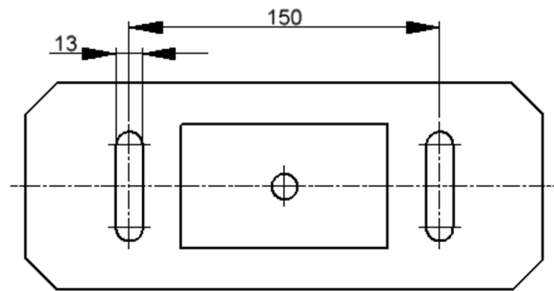

Figure 4 - Reference template for projector installation
- The frangible support of the LHP projector must be fixed to the helipad pavement by means of two M12 threaded rods, each complete with washer, grower and M12 nut. The rods have to be cast into the pavement; tightening torque for nuts: 50 Nm. Take as reference figure 4 for the interdistance between the rods.